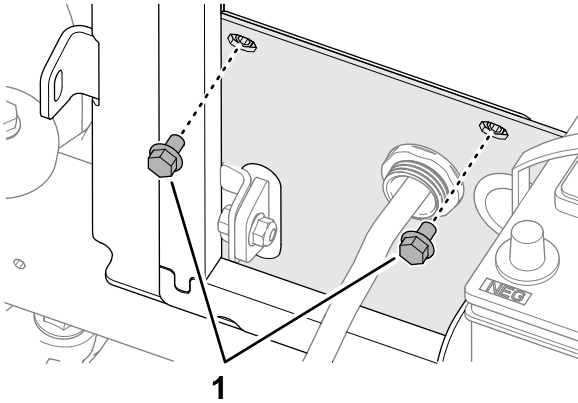

Figure 11
1. Remove the 2 Flange capscrews (5/16 x 1/2 inch) that secure the radiator to the radiator bracket (Figure 11).